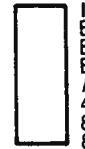

Figure 2.11 IEEE-488 Connector
12. USER 6* (see Fig. 2.11 for related pin connections)
- a. IEEE-488 Connector (Figure 2.11) - provides standard connection for IEEE communications.